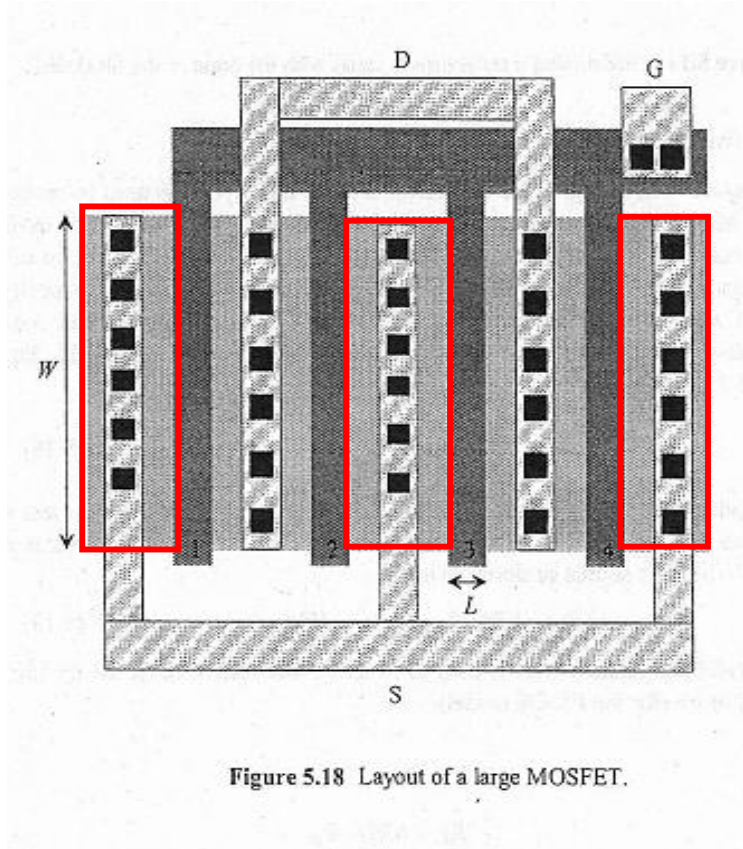

Figure 5.18 Layout of a large MOSFET.
- 5.5) Estimate the areas and perimeters of the source/drain in the layout seen in Fig. 5.18 if the length of the device, L , is 2 and the width of a finger, W , is 20.